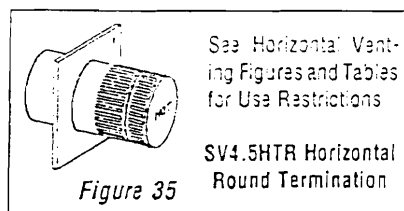

Figure 35
2. Install the round termination (SV4.5HTR) - See Figure 35 for an illustration of the round termination. For the last step, from outside the exterior wall, slide the collars of the termination onto the adapter (the outer over the outer and the inner inside the inner) until the termination seats against the exterior wall's surface to which it will be attached. Orient the housing of the termination with the arrow pointed upwards. Secure the termination to the exterior wall.
*Note: See Figure 34 for wall thickness range reductions when using SV4.5HTS and Figure 35 when using SV4.5HTSS terminations.